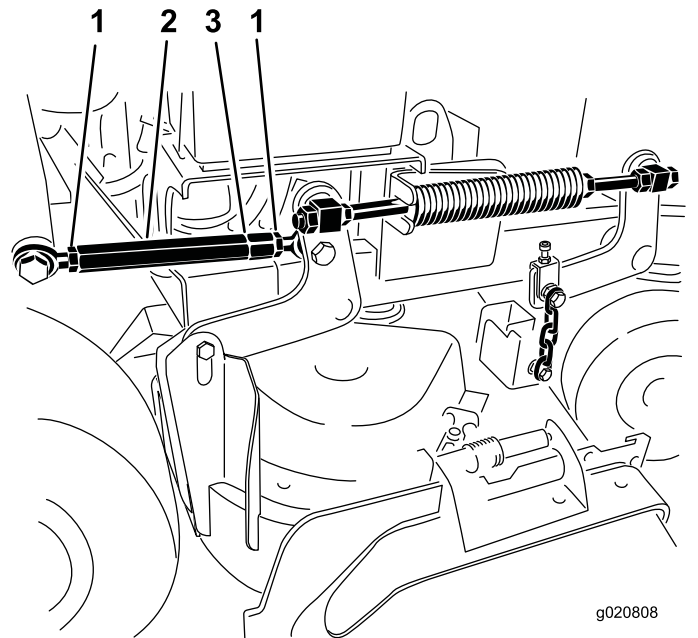

Figure 83
4. Loosen the jam nuts at both ends of the turnbuckle (Figure 83).
Note: The end of the turnbuckle with the groove has left threads (Figure 83).